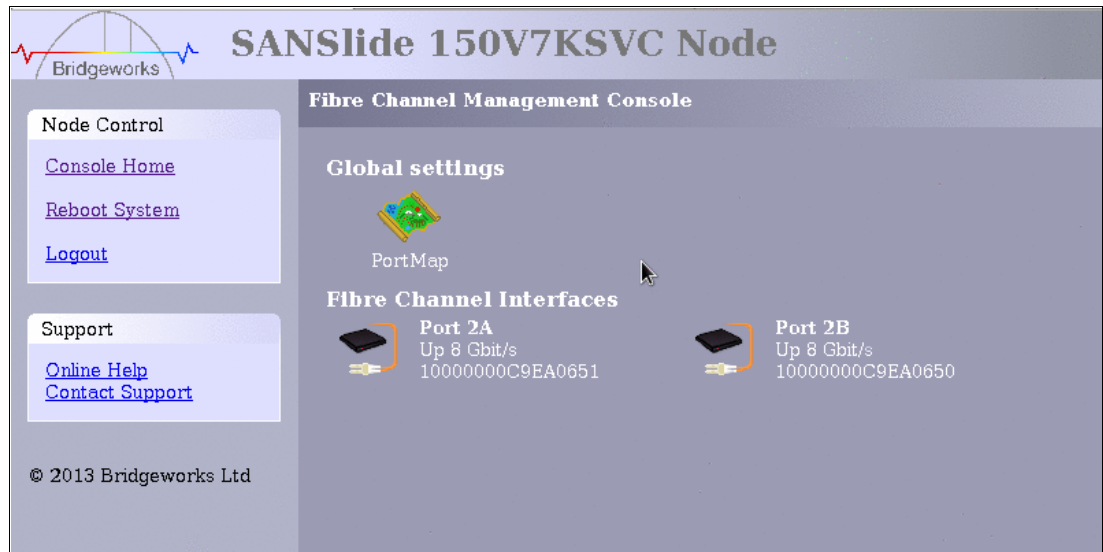

Figure 3-2 Fibre Channel Management Console window
1. From the home window, click the **Fibre Channel** icon in the Interfaces and Devices section to see the Fibre Channel Management Console panel (Figure 3-2).